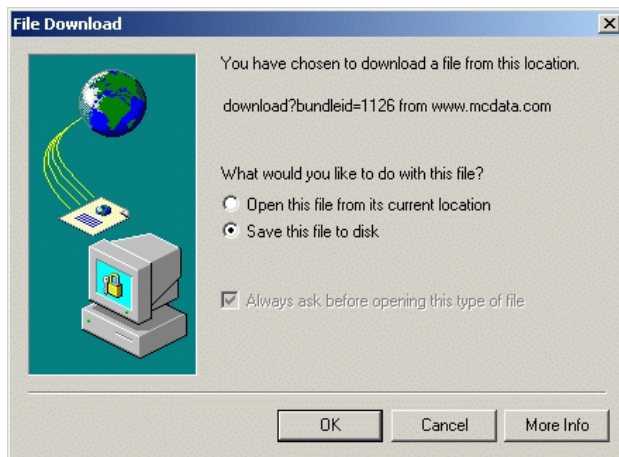

Figure 4-46 File Download Dialog Box
8. In the *Action* column adjacent to the approved request for the firmware version, click *Download*. The *File Download* dialog box displays (Figure 4-46).